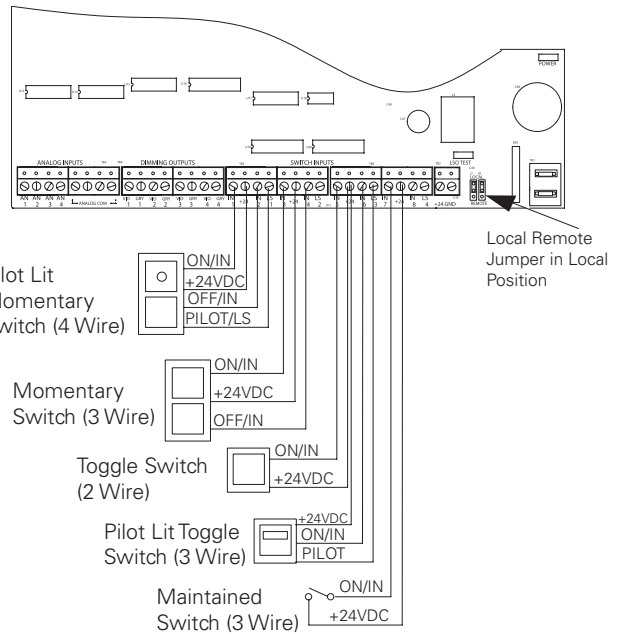

Figure 10: ControlKeeper 4A Low-Voltage Switch Wiring
3. Ensure that the local remote jumpers have been moved to the local position (over top pins) for both jumpers (J7 & J8) to enable 24VDC to the low-voltage switch channels. See Figure 10 below for location.
4. Please see wiring detail in Figure 10 for details on connections of different devices to the ControlKeeper 4A system.
The ControlKeeper 4A has up to four input channels that allow for connection of a pilot light wire from a lighted switch. The terminals are labeled LS on the logic board. Please see Figure 10 above referring to the Pilot Light Momentary Switch for wiring example.